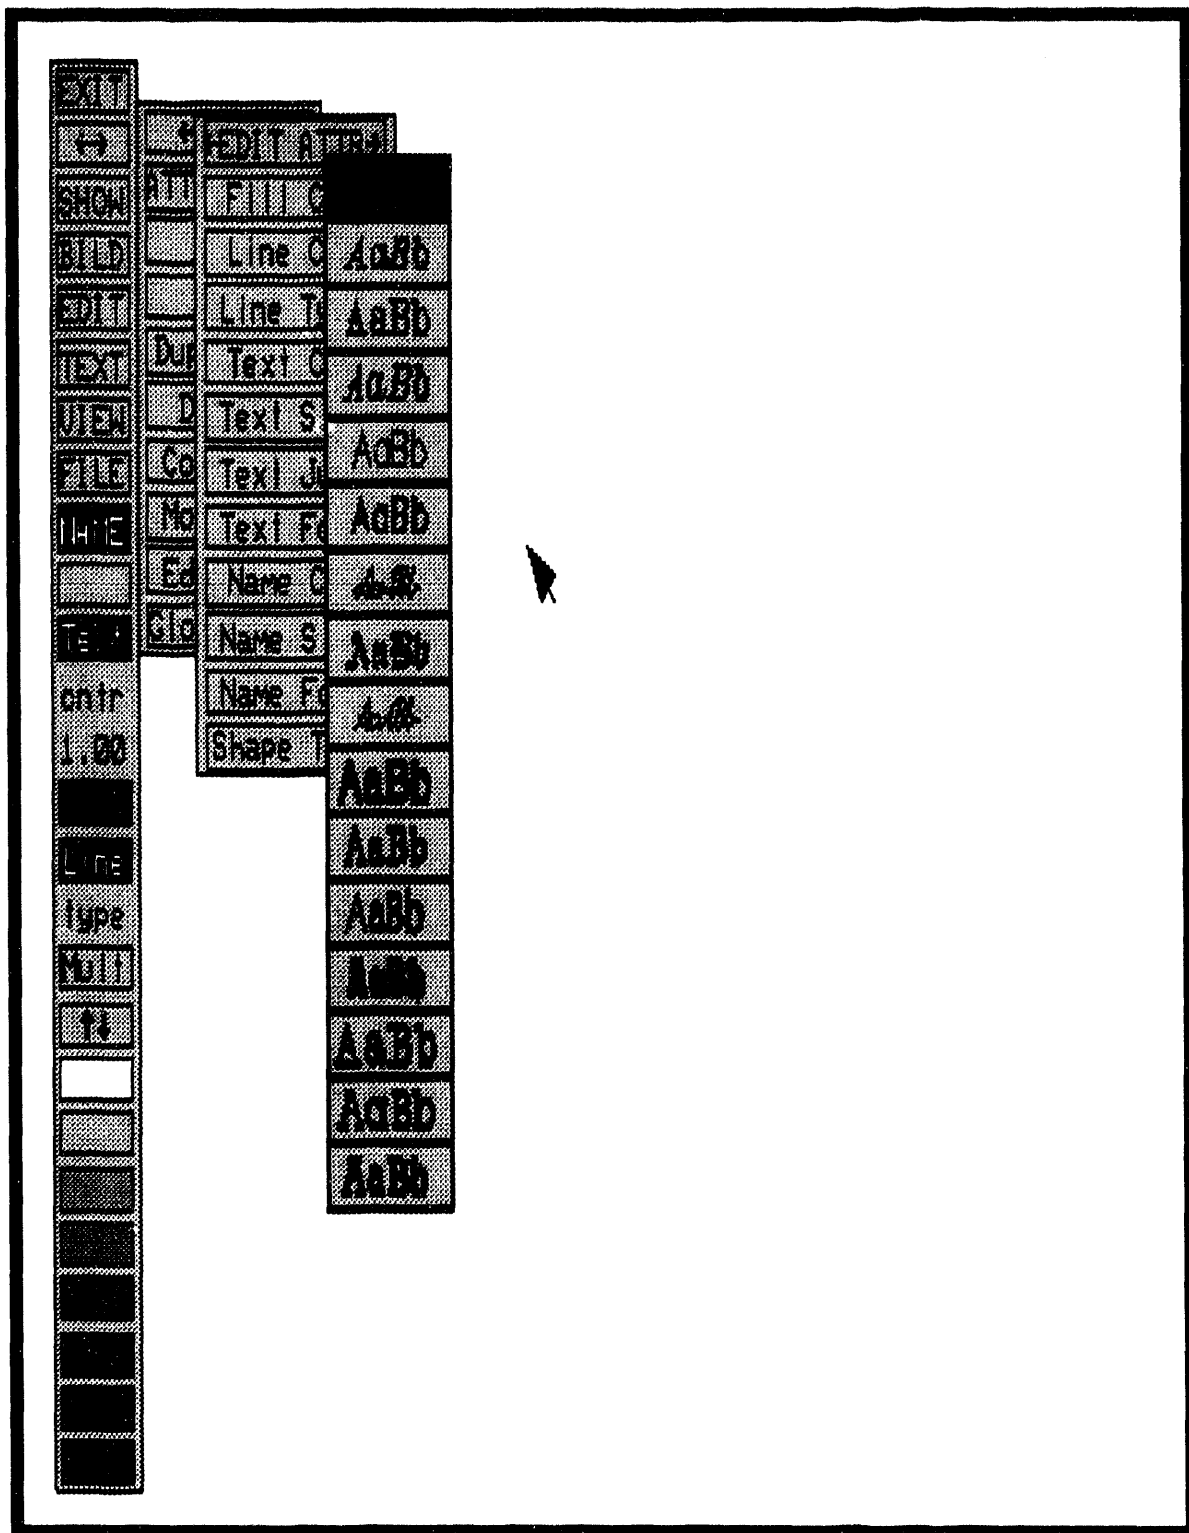

Figure 10. Font selection screen.
- Text Font** This attribute option allows you to select the font type for selected text. When you select this option an additional pop-up menu will be displayed (Figure 10). Select the desired font type by positioning the cursor over the font and pressing the left mouse button. You must select a font (or cancel) in order to continue. Next, you will be prompted to **Pick text to be modified**. Position the cursor over the text to be changed and
This attribute option allows you to select the font type the shape name will have in your diagram. When you select this option an additional pop-up menu will be displayed (Figure 10). Select the desired font type by positioning the cursor over the font and pressing the left mouse button. Next, you will be prompted to **Pick shapes to be modified**. Position the cursor over the shapes to be changed and press the left mouse button. A small dot will appear. Drag the cursor over the text to be modified. When the box surrounds the shapes to be modified, press the left mouse button. If the multipick option is turned on (see Section 4.16), you will be prompted to **Pick next shapes to be modified**. At this point you may select more shapes, or press the right mouse button to terminate the process. Only the selected shapes will carry the new font type. The remaining shapes (unselected) will be unchanged.